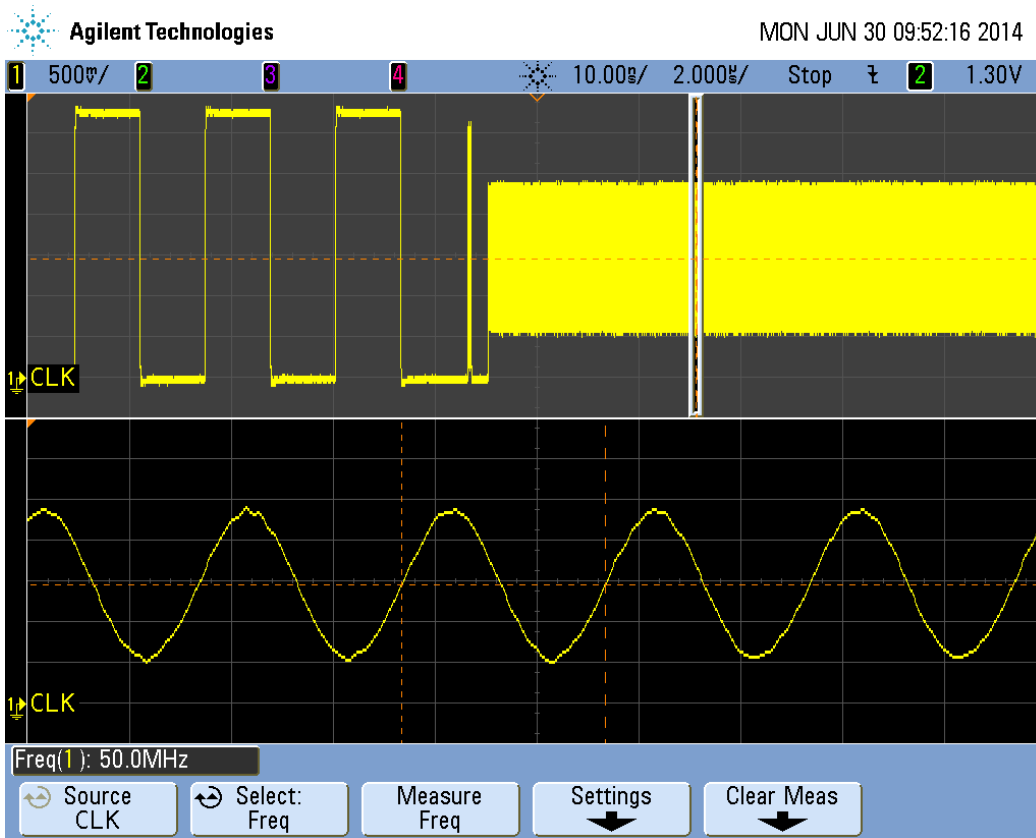

Figure 4: Oscilloscope snapshot - Clock Speed Change.
4. Set bus speed to 50 MHz. The clock speed change is depicted in Figure 4.